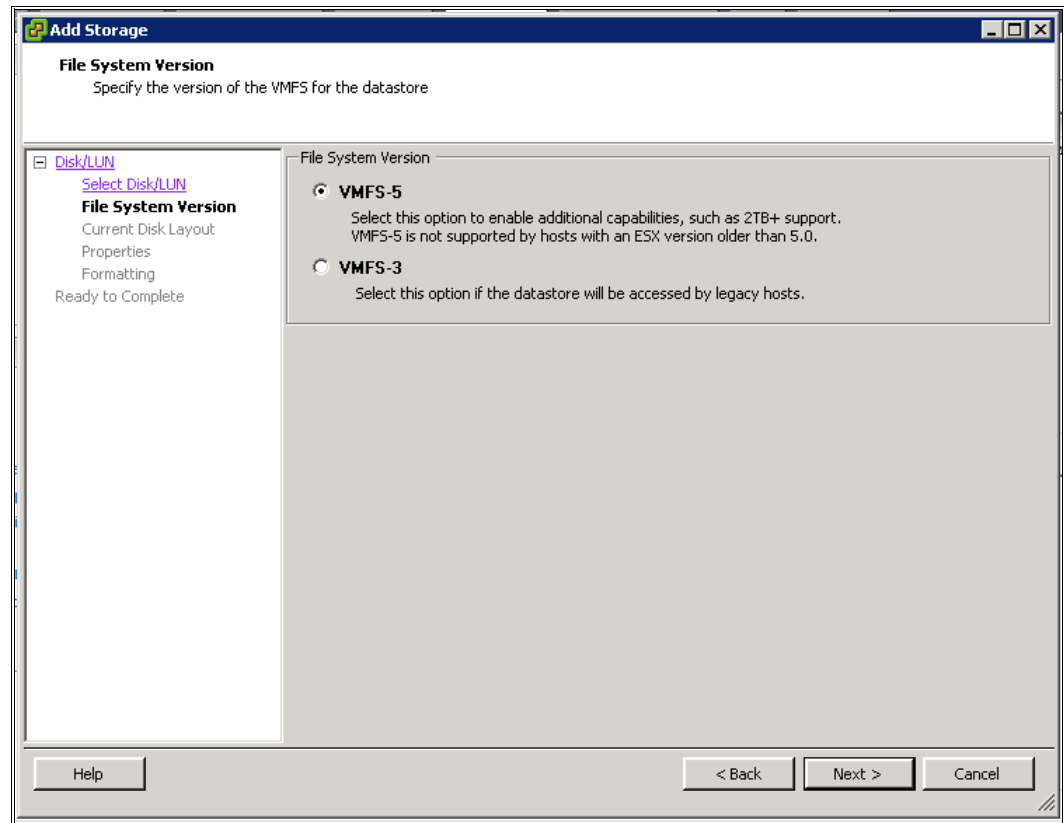

Figure 5-73 Select File System Version
7. Select a File System Version option. In our example, we selected **VMFS-5**, as shown in Figure 5-73.